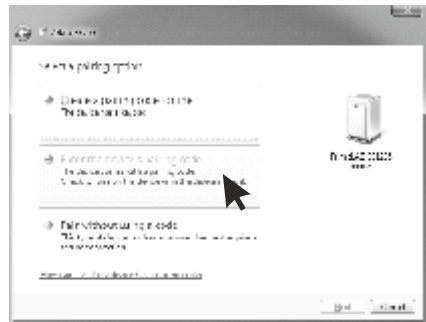

Fig. 3
4) In the next window (Fig. 3) select the option “Enter the device’s pairing code” and enter “0000” (four zeros) in the text box next to the option. Then click on “Next”.